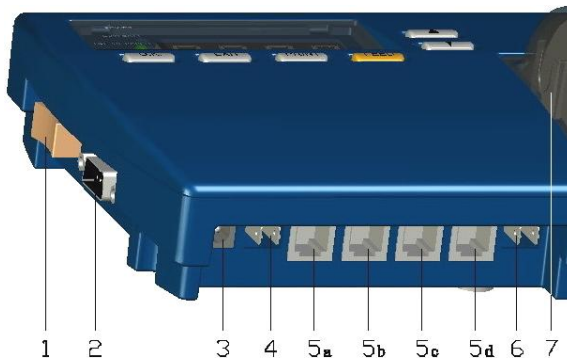

Figure 6: Connections
1. Plug the AC adaptor into the power supply and connect the 12V power cord to the power jack (item 3 in Figure 6).
2. Connect the temperature /temperature-humidity/ event sensors cord to the sensor input jacks (items 5... in Figure 6). The VLT recorder has 4 inputs jacks. Connect the sensors 1 thru 4 from left to right. The VLTH uses only the first 2 left inputs jacks.
3. Switch the power switch to the On position (item 1 in Figure 6). The Power and Sensor LEDs turn green. After a few moments, the first channel value should appear in the display area.
- ▲ To send alarms to a remote device, attach a cable to the remote alarm contacts (item 6 in Figure 6). The remote alarm contacts are a pair of ¼” terminals, 1 Amps, 12V.
- ▲ To export data to a PC, attach an RS-232 cable (not included) from the PC to the RS-232 port (item 2 in Figure 6).
- ▲ To export data to the internet viewer, connect cable from the Cellular Adaptor (not included) to the RS-232 port (item 2 in Figure 6).
- ▲ To silence the alarm, connect a remote buzzer silencing device by attaching a cable with a momentary switch to momentarily short the buzzer silencer contacts (item 4 in Figure 6). The buzzer silencer contacts are a pair of ¼” terminals.
1. Connect an RS-232 cable from the PC to the RS-232 port (item 2 in Figure 6).
- Connect an RS-232 cable from the PC to the RS-232 port (item 2 in Figure 6).